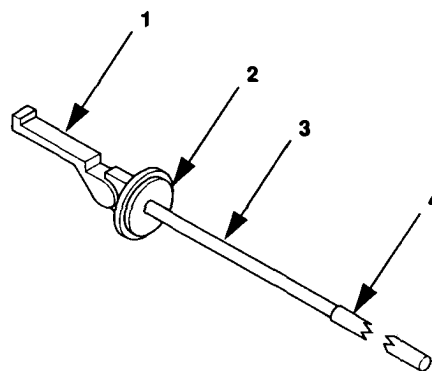

Figure 2-17. Auxiliary Fuel Source (Typical).
- b. Disconnect auxiliary fuel hose from fitting on container adapter (2, figure 2-17).
- d. Remove extension pipe (4), pipe (3), adapter (2), and strainer clamp (1) and store in the accessory box.